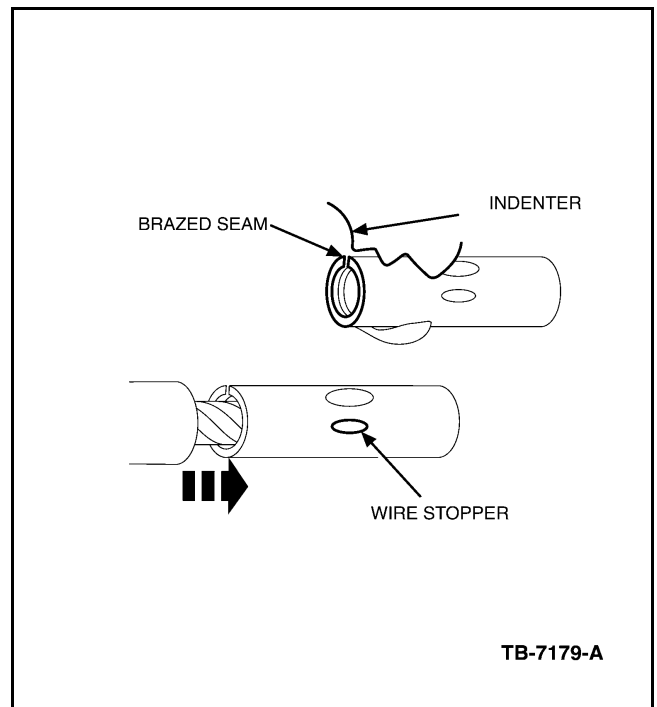

Figure 4 - Article 04-3-2
4. Center one (1) end of the butt splice on the appropriate crimping chamber. If visible, be sure to place the brazed seam of the butt splice toward the indenter (Figure 4).
5. Hold the butt splice in place and squeeze the tool handles together until ratchet engages sufficiently to hold the butt splice in position (typically one (1) or two (2) clicks). DO NOT deform the butt splice.
6. Insert stripped wire into the butt splice, making sure the insulation on wire does not enter the butt splice (Figure 4).